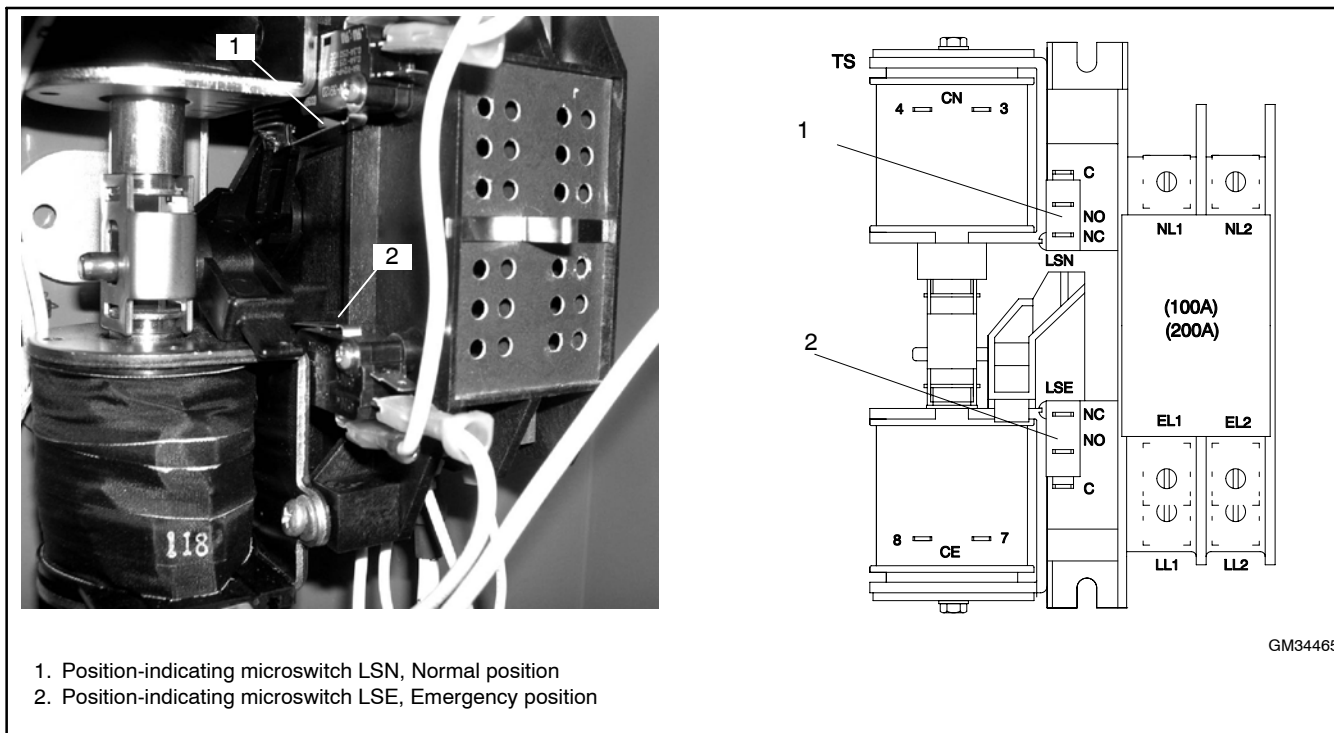
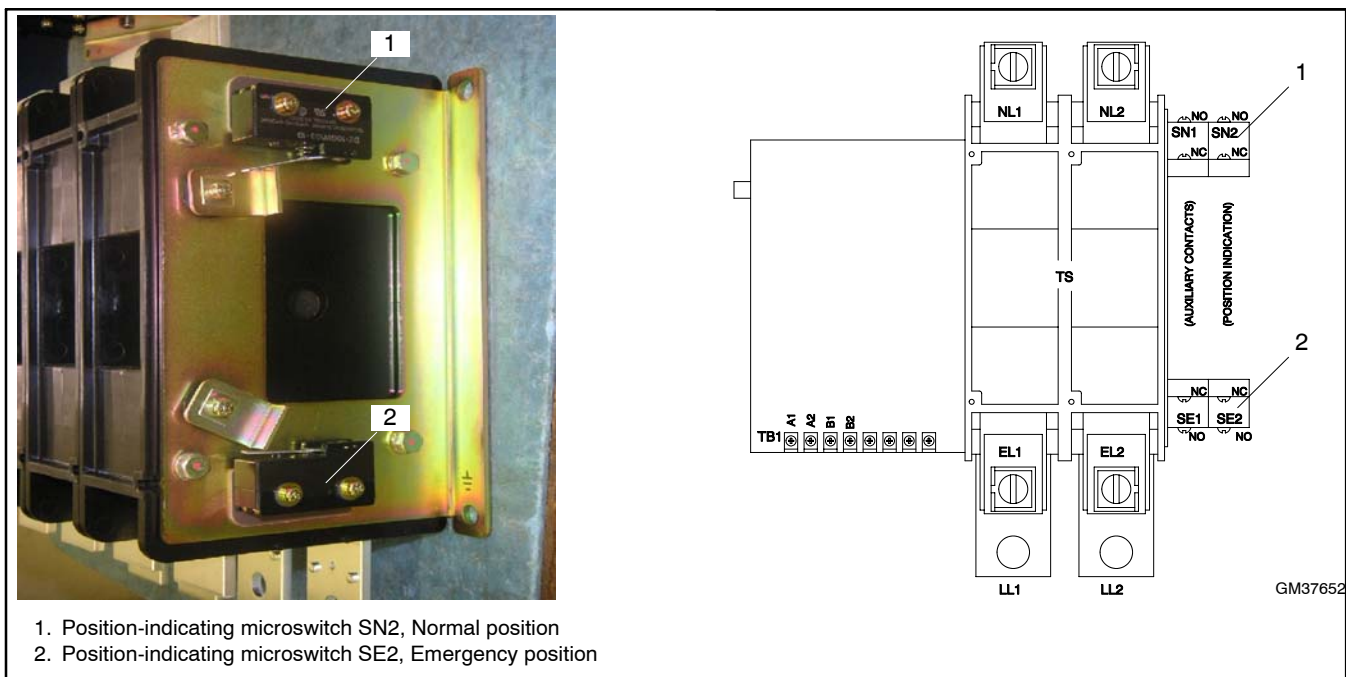

Figure 5-11 Position-Indicating Microswitches, 100/200-Amp Models
Figure 5-12 Position-Indicating Microswitches, 400-Amp Models
5. See Figure 5-11 or Figure 5-12 for the position-indicating microswitch locations.